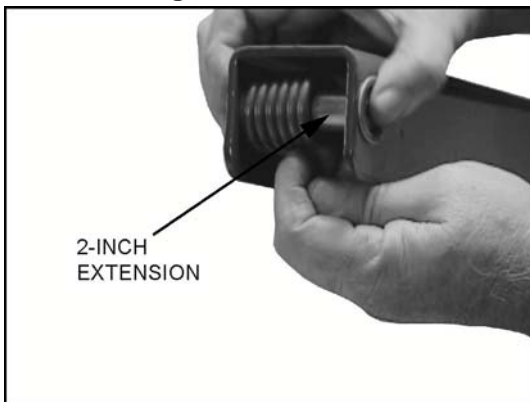

FIGURE 3-16: 2-INCH EXTENSION
- f. Refer to **Figures 3-16**. Install a 2" extension pin through parallel arm and rear spring.